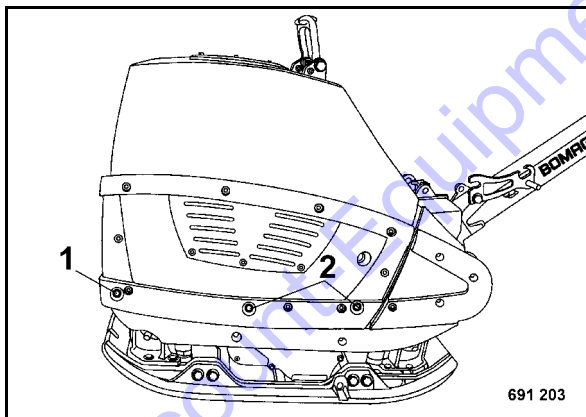

Fig. 73
- Loosen the engine hood fastening (1) (Fig. 73) on both sides and remove the hood fastenings on both sides.